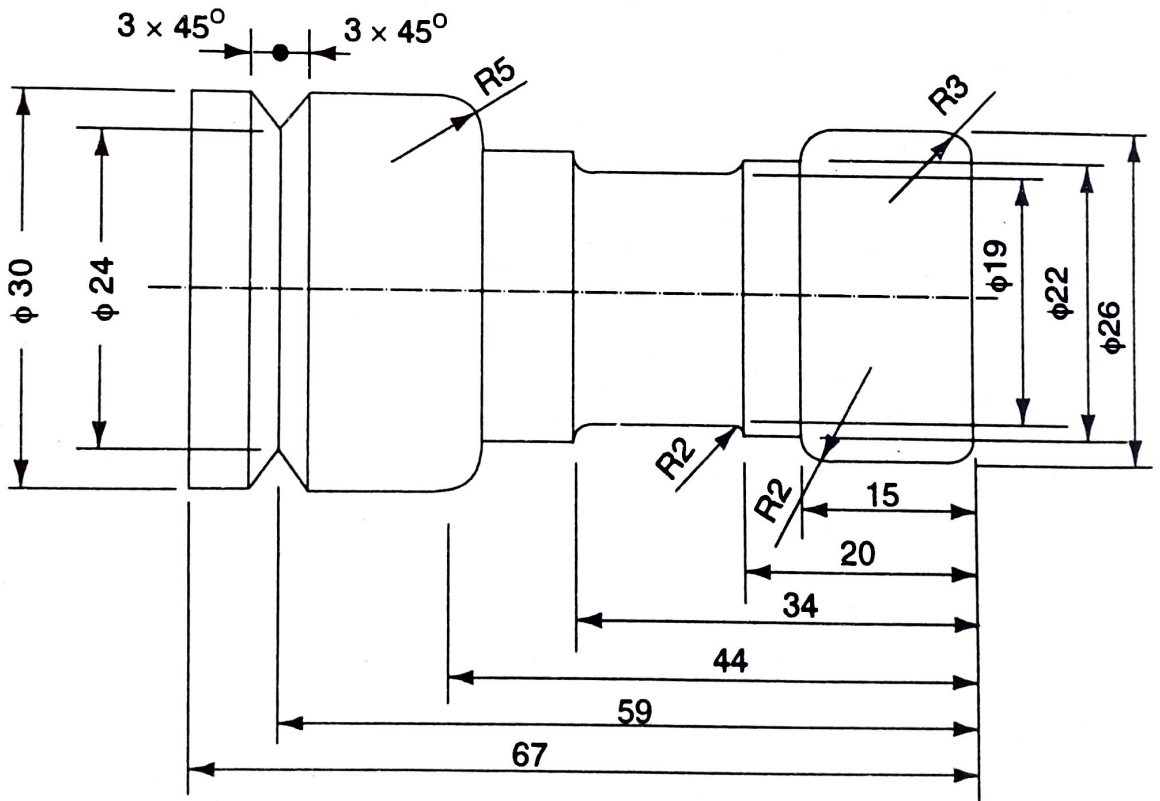

Fig. 5.13.
4. Write a part programme for the component shown in Fig. 5.13. The machining parameters are given below: